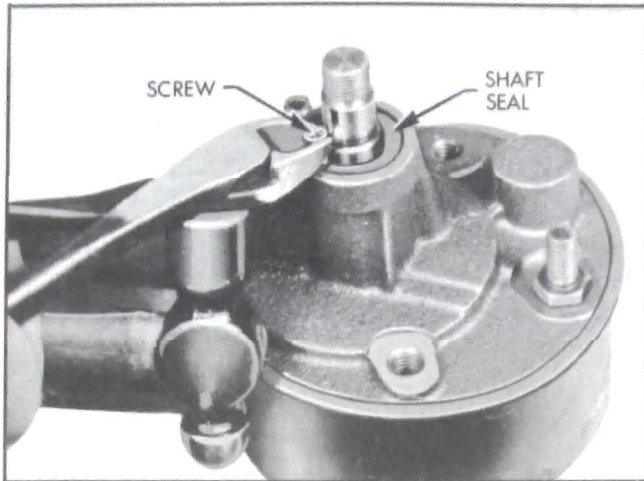
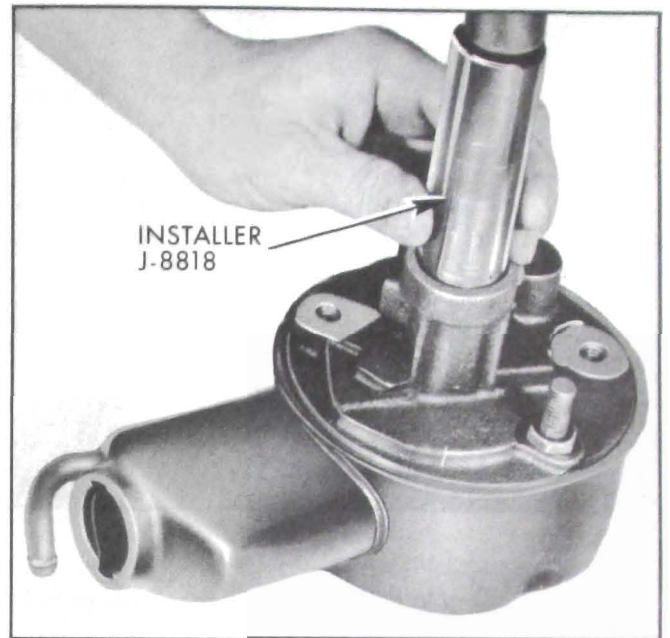

Figure 8-63—Removing Shaft Seal Without Disassembling Pump
Figure 8-72—Installing Shaft Seal
It is not necessary to disassemble pump to replace shaft seal. To remove seal, punch a small hole in metal surface of seal and thread a sheet metal screw into hole. Then place side cutters under head of screw and tap out seal. See Figure 8-63. Lubricate new seal with automatic transmission oil and install as shown in Figure 8-72.
18. Remove pump from vise. If shaft seal was removed, lubricate new seal with automatic transmission oil and drive in housing spring side first with Installer J-8818. See Figure 8-72. Just bottom seal in housing. Excessive force must not be used when driving seal in place.